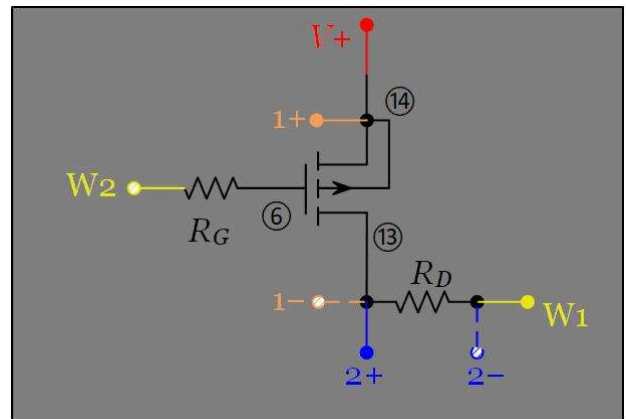

Figure 3.4. Measuring the iv-characteristics of a PMOSFET.
25. Change the wiring on your circuit to obtain the circuit of Figure 3.4.